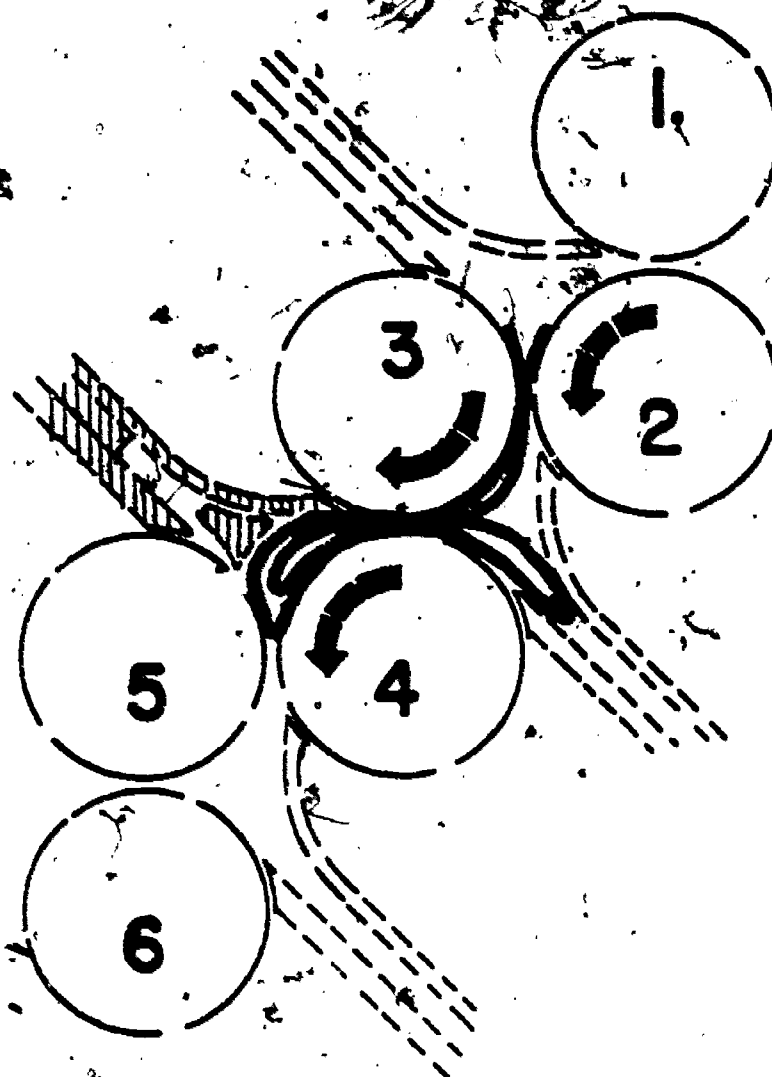

FIGURE 5. FOLDING PROCEDURE STEP 5
e. Step 5. In a four fold plate section, the imposition might call for the third fold to be made in the fourth fold plate, in this case, the operator lowers the Number 3 deflector which allows the sheet to enter the fourth fold plate. The twice folded sheet then is advanced by rollers 3 and 4 until it strikes the Number 3 deflector which direct the sheet past the Number 3 deflector which direct the sheet past the Number 3 fold plate and between the 4 and 5 rollers. The Number 4 and 5 rollers then drive the sheet into the Number 4 fold plate where... (See Figure 5)